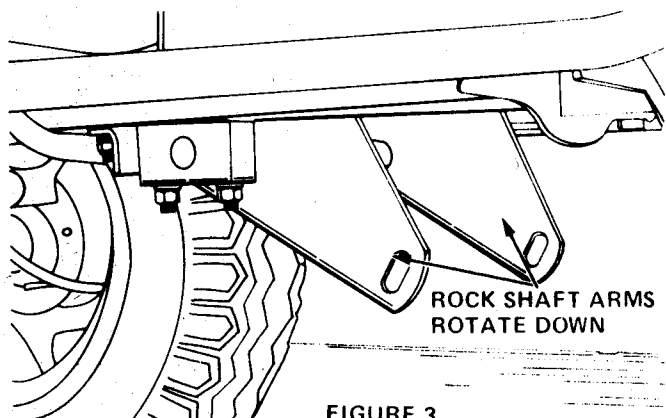

FIGURE 3
5. On S-12 and S-10G tractors with manual lift systems, move the lift lever into the forward position to lower the center rock shaft arms. Reach under the tractor and rotate the rock shaft arms completely down, see Figure 3. On tractors equipped with a hydraulic lift system, move the hydraulic control lever to the "down" position to lower the center rock shaft arms. Reach under the tractor and rotate the rock shaft arms completely down as shown in Figure 3.